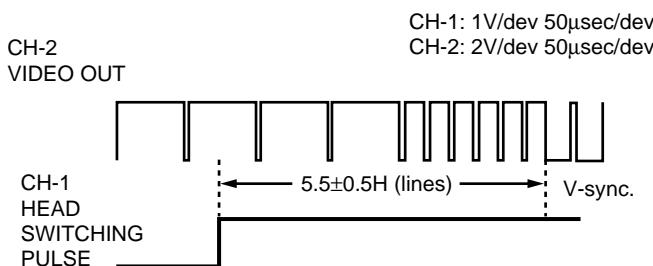

Figure 5-2.
4. Adjust R724 so that the leading edge of the head switching pulse is $5.5H$ (lines) ahead of the vertical sync as shown in Figure 5-2.